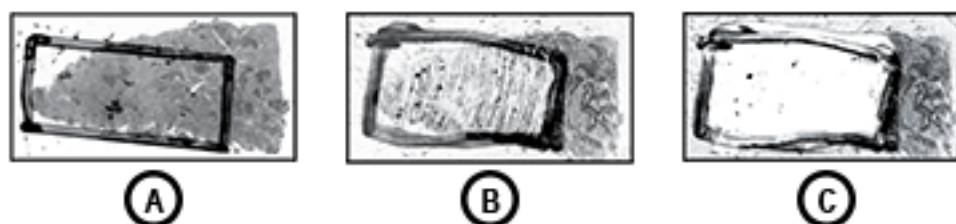

Figure 1. Examples of Proper (Recommended) and Improper (Not Recommended) Tissue Removal from Slide
- c. Perform macrodissection (pathologist or technician). Using a new razor blade or scalpel for each tissue sample to be processed, completely remove (scrape) the outlined invasive tumor tissue from the slide (see Figure 1) and transfer to the labeled 1.5 mL lysis tube.